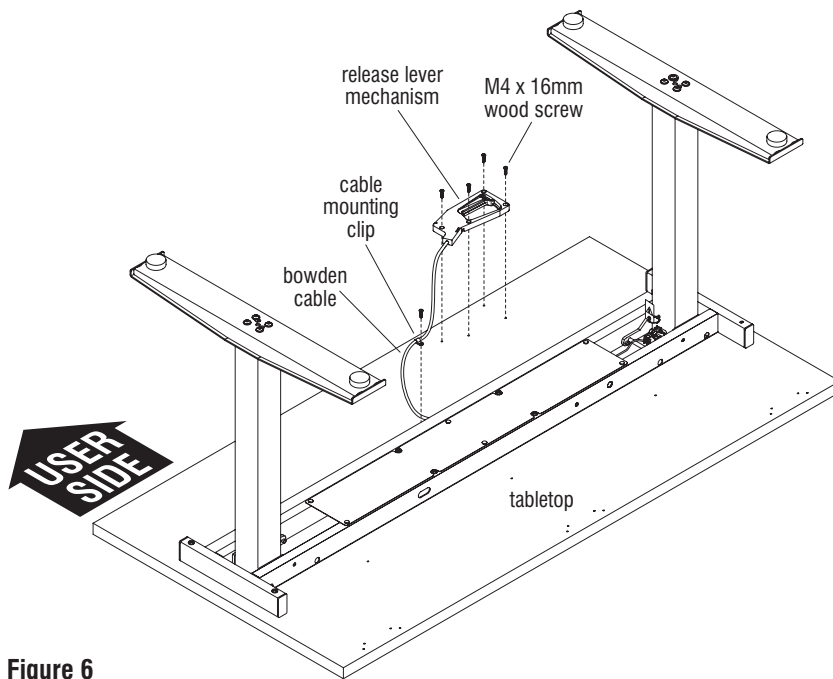

Figure 6
1. Locate the four pre-drilled mounting holes for the release lever mechanism at the user side of the tabletop. Align the release mechanism holes to pre-drilled holes on the tabletop. Attach the release mechanism to the tabletop using four M4 x 16mm screws (Figure 6).
2. Position a cable mounting clip onto the bowden cable at a location midway along the cable and secure with screw provided to the underside of the tabletop (Figure 6).